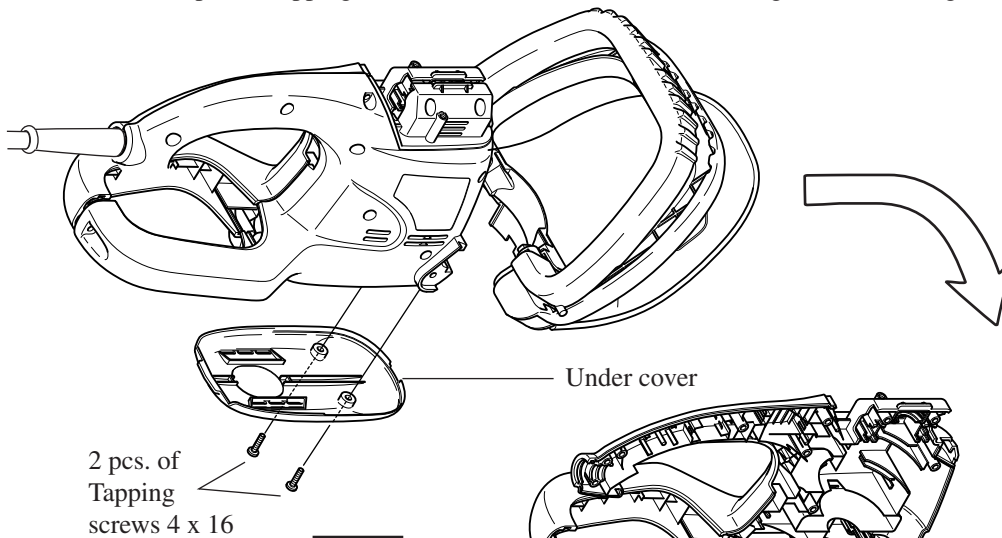

Fig. 23
3. Loosen 2 pcs. of tapping screws 4 x 16, and disassemble under cover. See Fig. 23.